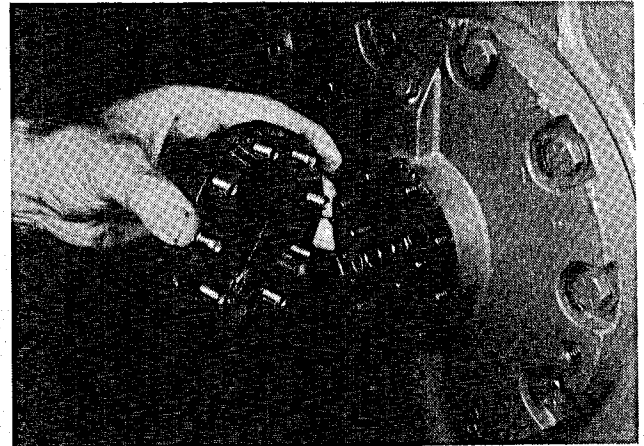

Figure 53
4. Place the spring over the protruding knob on the oil pump plate (Figure 53). Hold in position while placing the cover and bolts up against the bearing head. Push the cover toward the bearing and engage the two bolts.